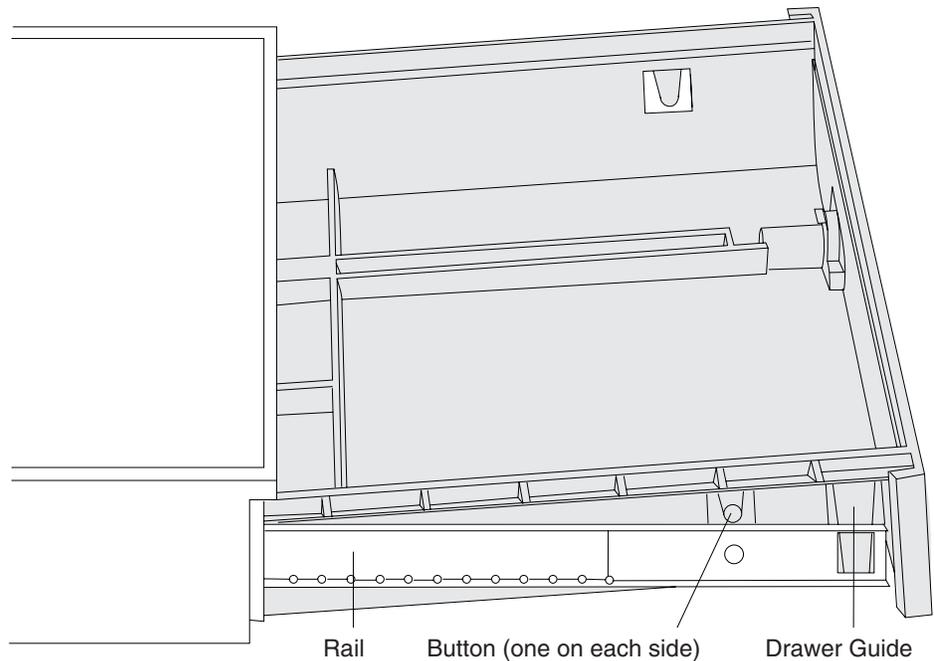

Figure 2. Removing and replacing a full-size cash drawer
9. Push in on the buttons in the rails (see Figure 2), and pull up on the front of the drawer until the drawer is free from the slides. Pull the drawer forward out of the base.
3. Position the rear of the drawer into the slides so that the drawer guide on each side of the drawer aligns with the corresponding opening on each side (see Figure 2).